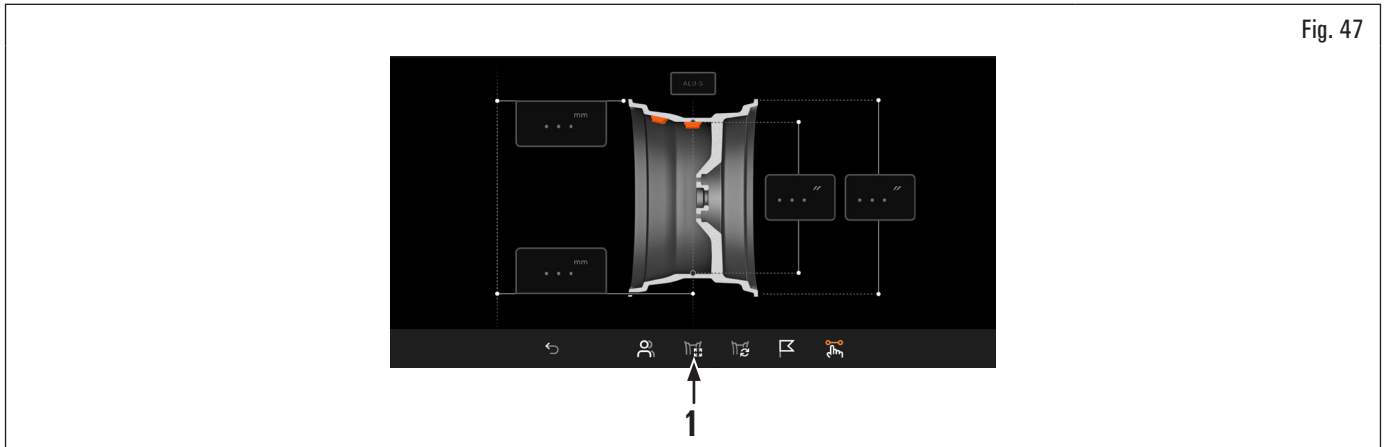
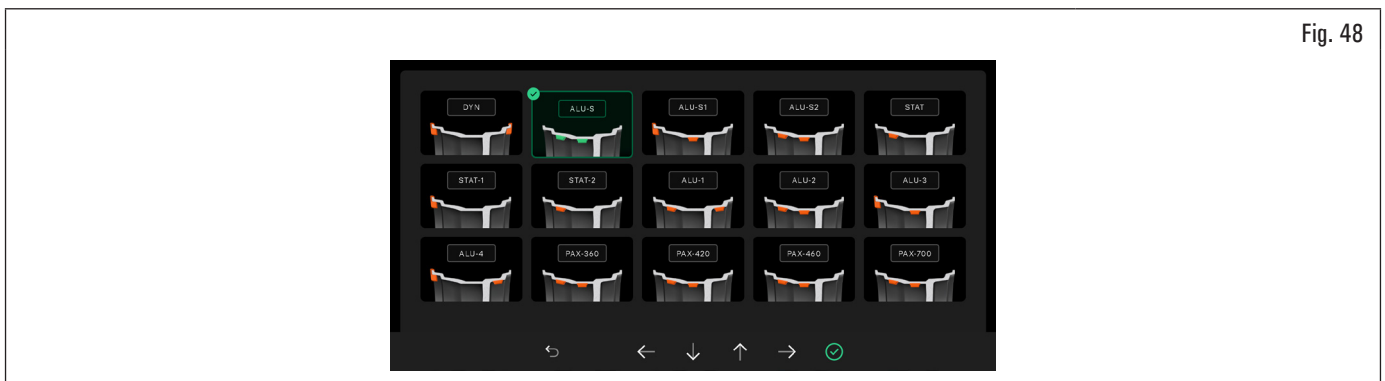

Fig. 47
Fig. 48
To select the balancing program, proceed as described below: press the icon (Fig. 47 ref. 1) to display the screen (see Fig. 48), from which you can select the desired program by pressing on the icons    .